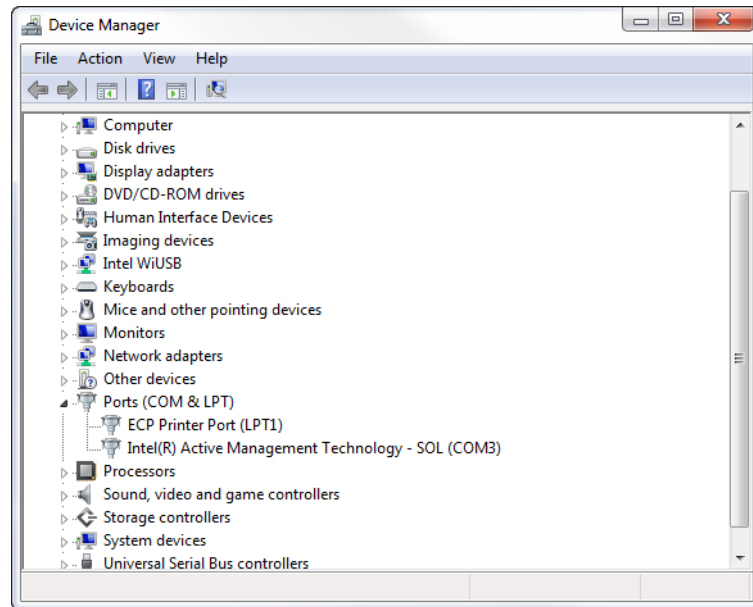

Figure 17. Device Manager
2. Open Device Manager in Control Panel. See Figure 17.